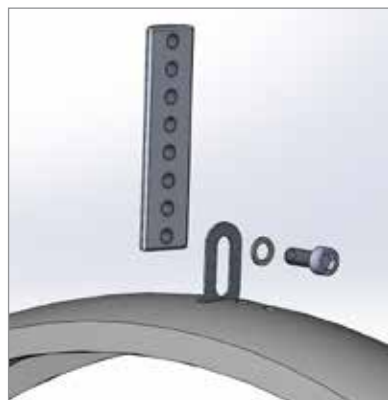

Figure 1: Attach fender bracket to bottom of Fender Flute
1. With the wheel removed, attach the fender to the bottom-most hole on the flat side of the Fender Flute by threading in the M6 bolt. Be sure to include the lock washer (figure 1)